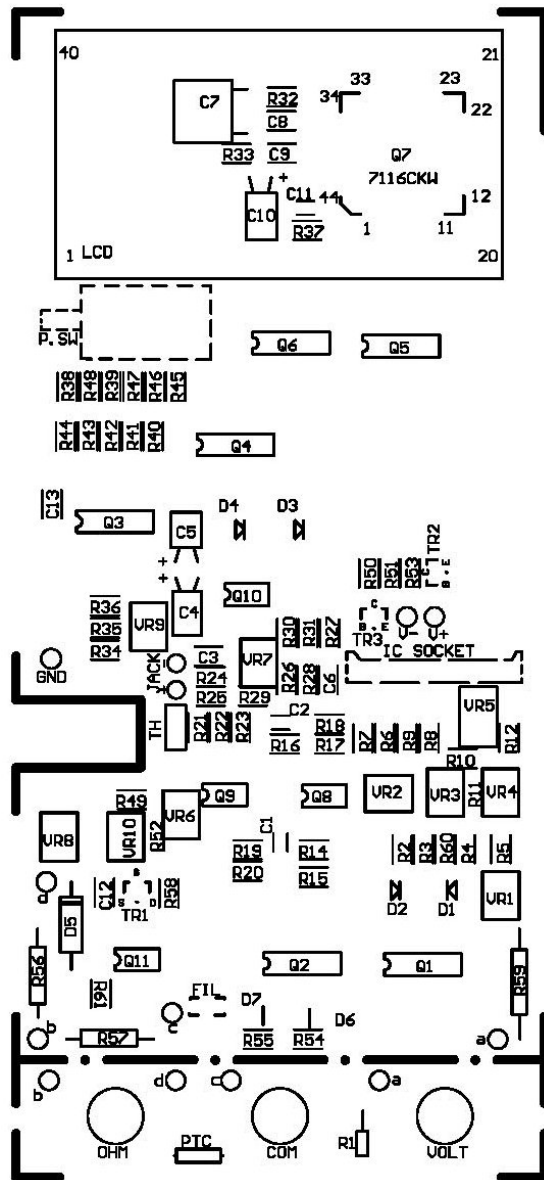

Figure 1
**Calibration Procedure (refer to Figure 1 PCB Layout)**